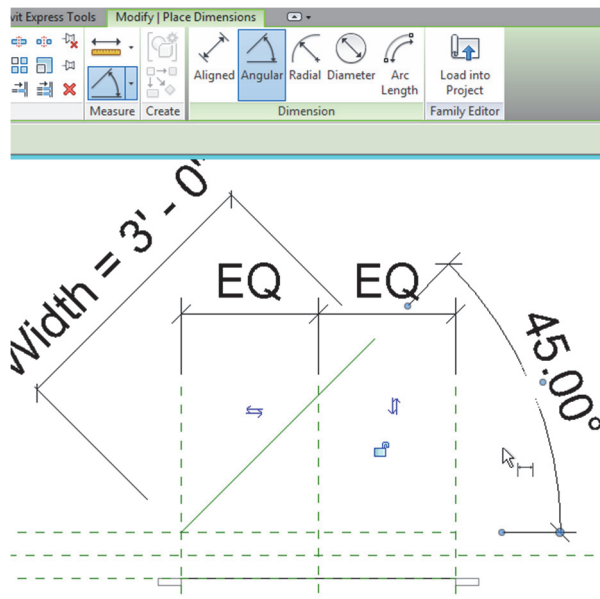

FIGURE 4.17
3. Place the Dimension (See Figure 4.17). Cancel the command.